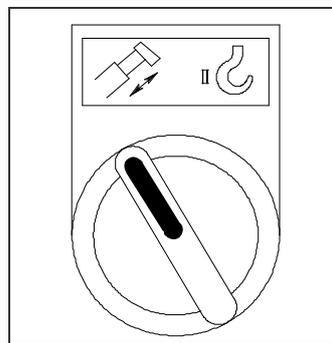

Fig. 04 – 30
- b) As illustrated in Fig. 04 – 31: